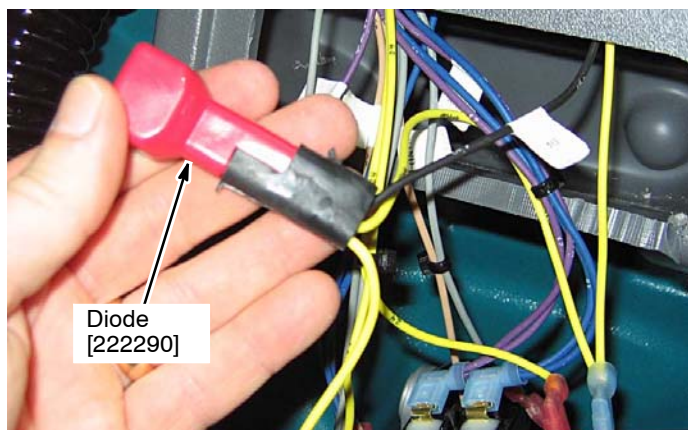

Fig. 31
9. Plug the diode into the ec-H2O harness (Figure 31).